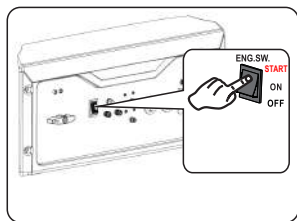

Fig 12 Electric Start
- For electric start, Push and hold the engine START/ON/OFF switch in the "START" position. Do not hold the START/ON/OFF switch in the "Start" position for more than 15 seconds. Allow 1 minute between starting attempts. (See fig 12)